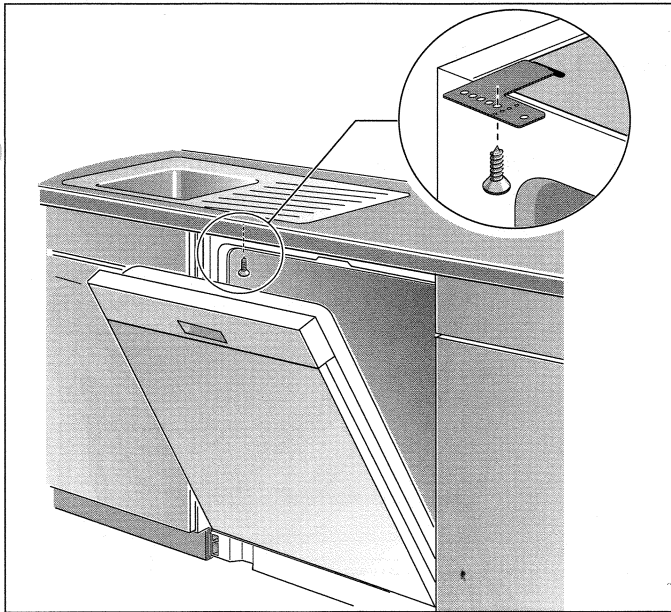
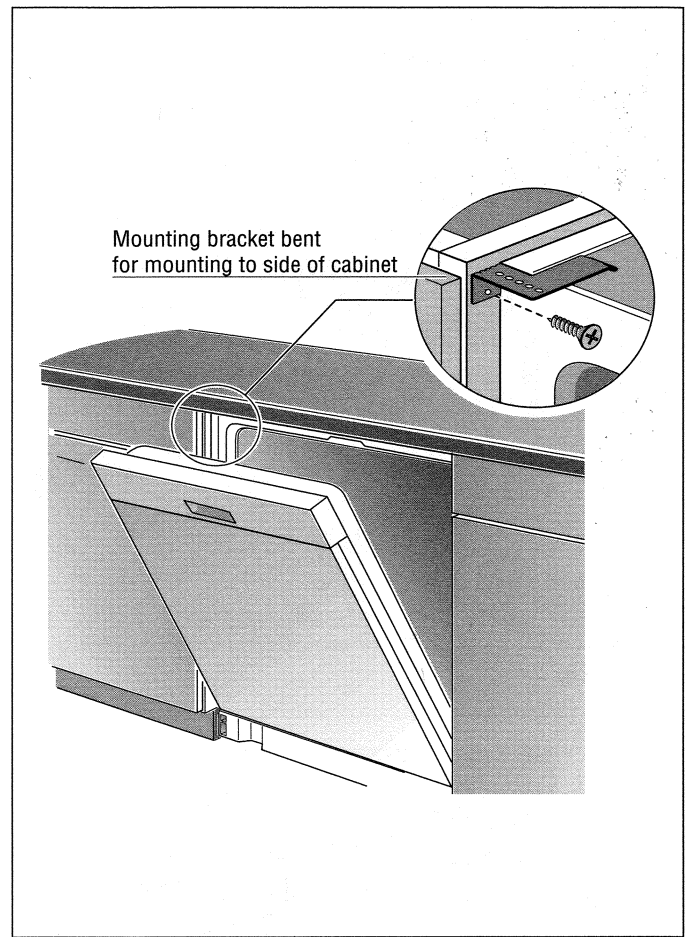
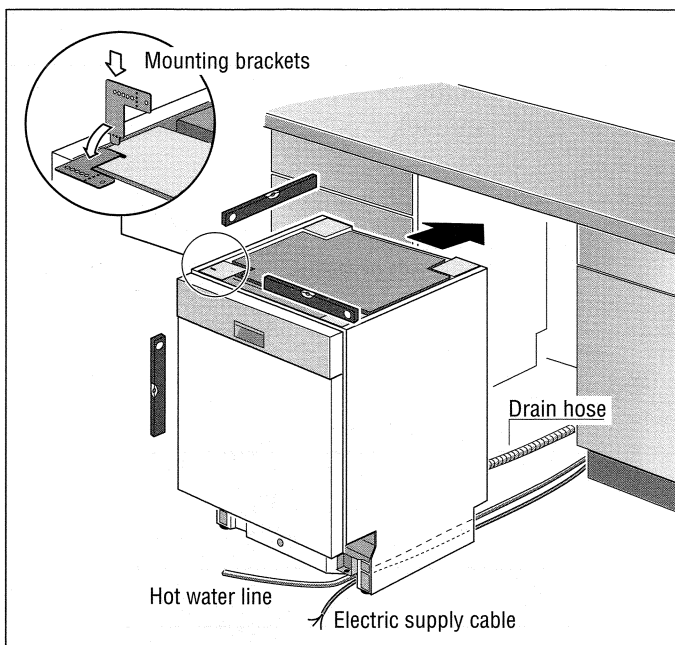
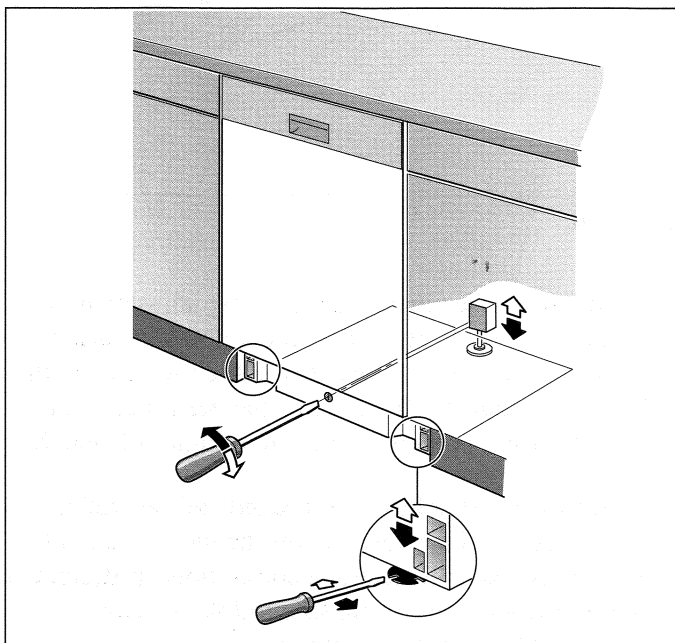

Figure 8.
Figure 9.
Figure 10.
Figure 11.
1. Determine how the mounting brackets will be placed. The brackets may be placed so as to fasten to the underside of the counter top, in Figure 8, or, the brackets may be bent and set to fasten to the side of the cabinet opening as, Figure 9. The dishwasher should be mounted to the side of the cabinet if there is a granite, marble or other hard natural surface counter top that could be damaged by drilling. Once decided, set the mounting brackets before sliding the dishwasher into place, see Figure 10.
2. Straighten the hot water supply line and the electrical cable so that it can be easily pulled through the channel under the dishwasher. See Figure 10.
Once slid into place make final leveling adjustments as shown in Figure 11. Then to maintain the dishwasher position and alignment, drive 2 wood screws through the holes in the mounting flanges that had been placed at each of the front corners, as shown in Figures 8 and 9.
The rear leveling leg is adjusted by turning the center screw at the front of the dishwasher. The front leveling legs are adjusted by rotating the front leveling legs. See figure 11, above.